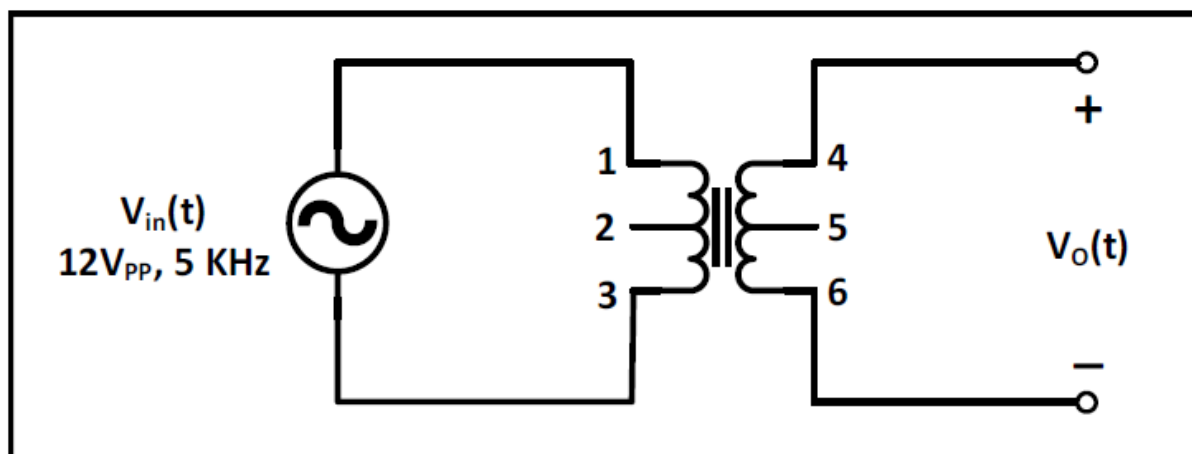

Figure 2.1
1) The circuit shown in the **figure 2.1** was connected and  $V_{in}(t)$  is sinusoidal with  $f = 5\text{KHZ}$ , after that the primary and secondary voltages were measured used oscilloscope. The results were recorded in table 1.